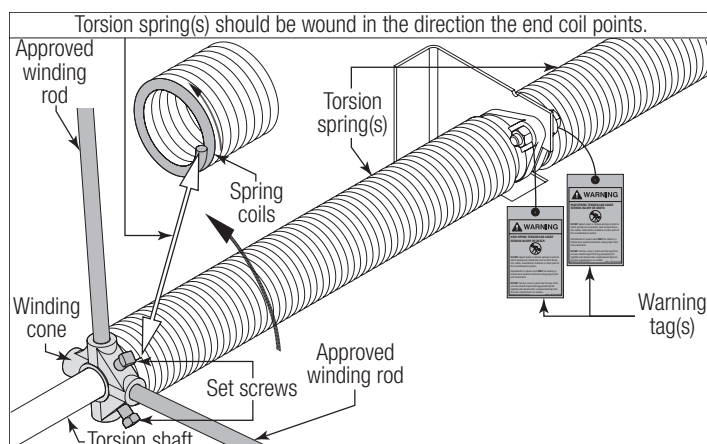
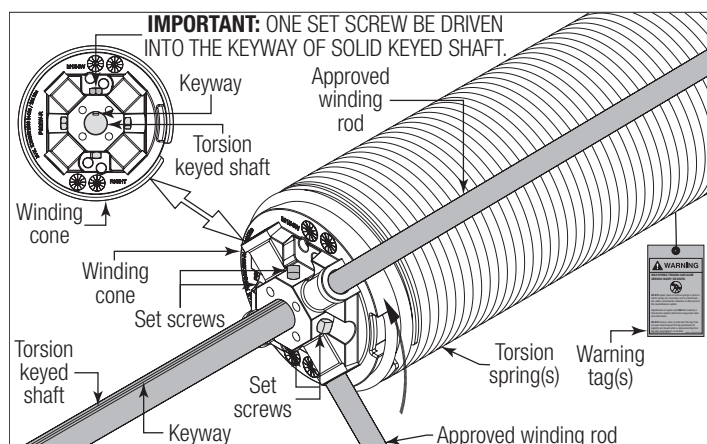

Figure 82
Figure 83
**PRIOR TO WINDING THE SPRING, ENSURE YOU'RE WINDING IN THE PROPER DIRECTION AS SHOWN IN FIGURE 82 AND FIGURE 83. OTHERWISE THE SPRING FITTING MAY RELEASE FROM SPRING AND RESULT IN SEVERE OR FATAL INJURY.**